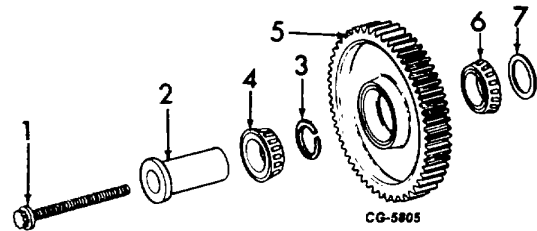

Figure 24. - Idler Gear and Component Parts Assembly
- a. Assemble component parts as shown in Fig. 24.
- b. Install the assembly with the timing marks facing out. Be sure the rear spacer (7, Fig. 24) is in position. A small amount of grease will aid in holding the spacer.
- c. Install and tighten the retaining bolt (1, Fig. 24) to 115 N•m (85 lbf-ft) torque.